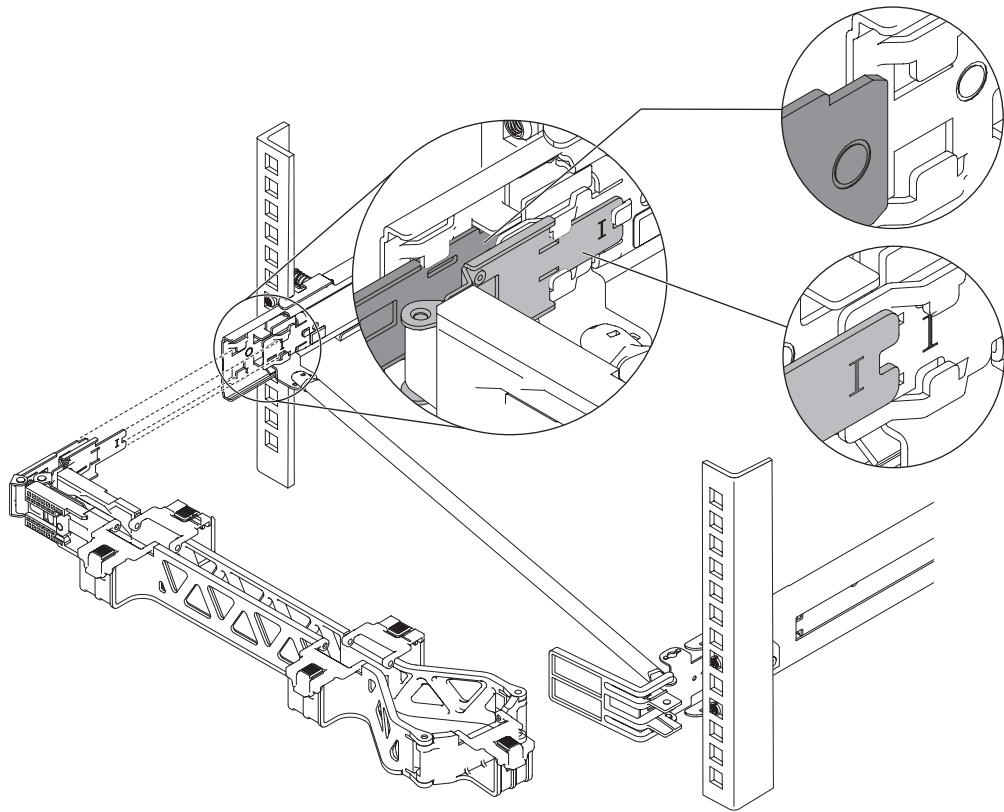

Figure 36. Installing the cable management arm
6. Install the cable management arm as shown in Figure 36 on page 46.